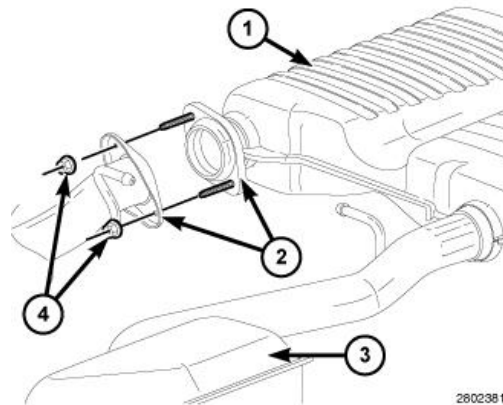

Figure 7 – Tailpipe Flange
14. If equipped with non-adjustable tailpipes, separate the left side tailpipe/resonator at the flange (2) (Figure 7).